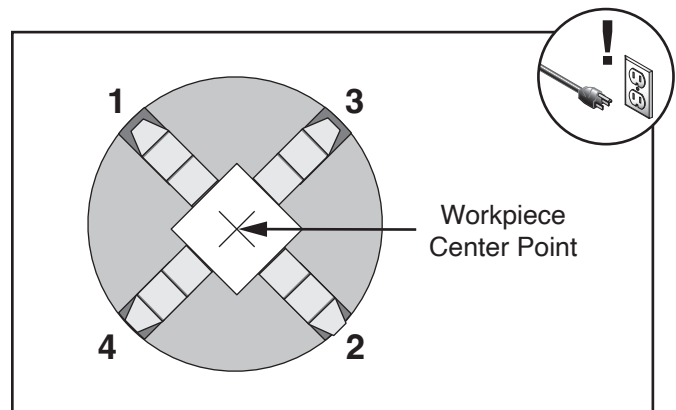

Figure 43. 4-jaw tightening sequence.
5. Tighten each jaw in small increments. After tightening first jaw, continue tightening remaining jaws in an opposing sequence, similar to sequential order shown in **Figure 43**.